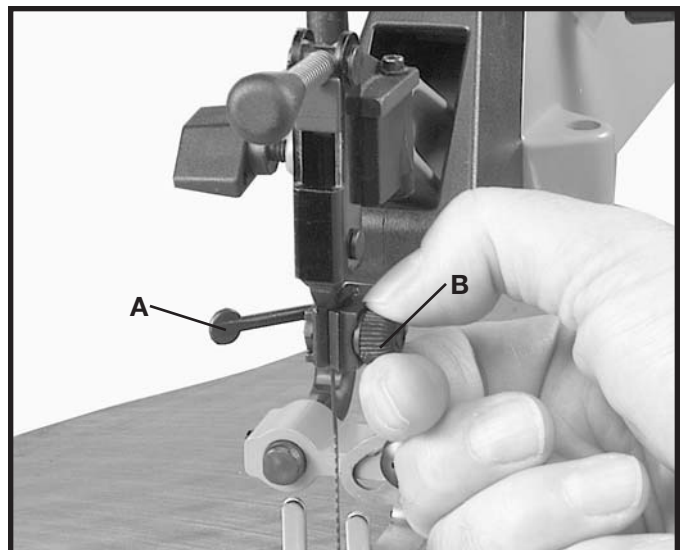
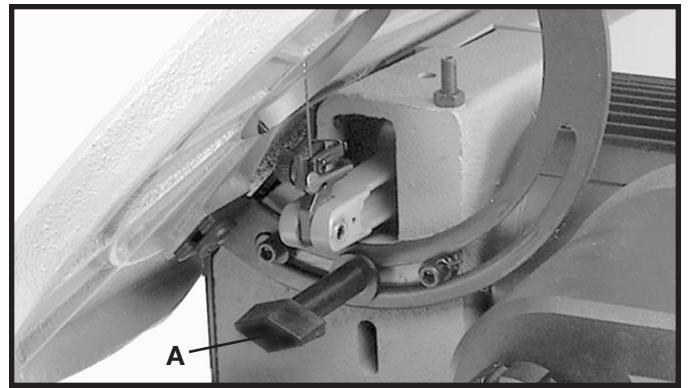
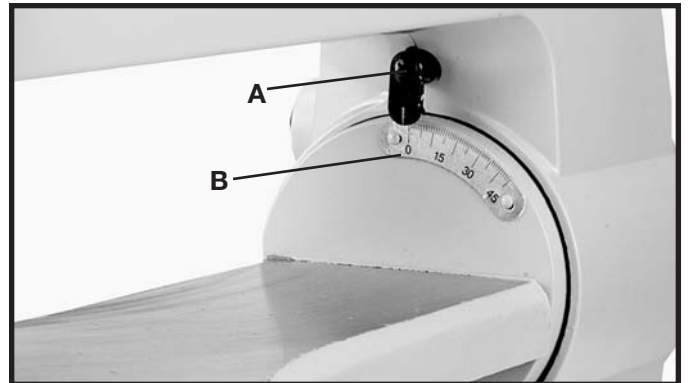
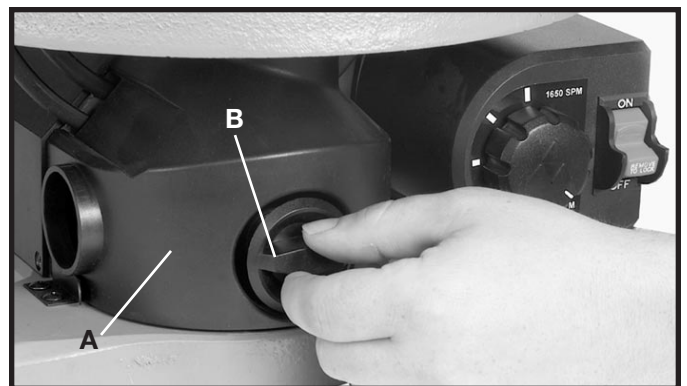

Fig. 9
Fig. 10
Fig. 11
Fig. 24
1. Move the blade locking lever (A) Fig. 9, to the rear (open) position, as shown.
2. Turn chuck clamping knob (B) Fig. 9, clockwise to tighten and counterclockwise to loosen the clamping action of the blade holder chuck. Very little movement of knob (B) will be necessary. **NOTE:** Only the upper chuck is shown. Clamping action of the lower chuck is adjusted in the same manner and can be accessed by removing dust cup shown in Fig. 24.
The table on your scroll saw can be tilted 45° to the left for bevel cutting operations by removing the dust cup as shown in Fig. 24 and loosening table lock knob (A) Fig. 10, tilt the table to the desired angle indicated on degree scale (B) Fig. 11 and tighten lock handle (A) Fig. 10.
1. Loosen table lock knob as shown in Fig. 10 and move the table all the way to the right until angle indicator shown in Fig. 11 is on "0".
**Note:** After adjusting table, reposition the pointer (B) Fig. 11 to "0" degrees. Loosen the screw (A) Fig. 11 and adjust pointer (B) to "0" degree mark and retighten screw (A).
3. Remove the dust collection cup (A) by rotating knob (B) 90° as shown in Fig. 24. Slide dust cup out of the guides (C) by pulling it toward the front. **NOTE: DO NOT OPERATE THE UNIT WITH THE DUST CUP REMOVED.**